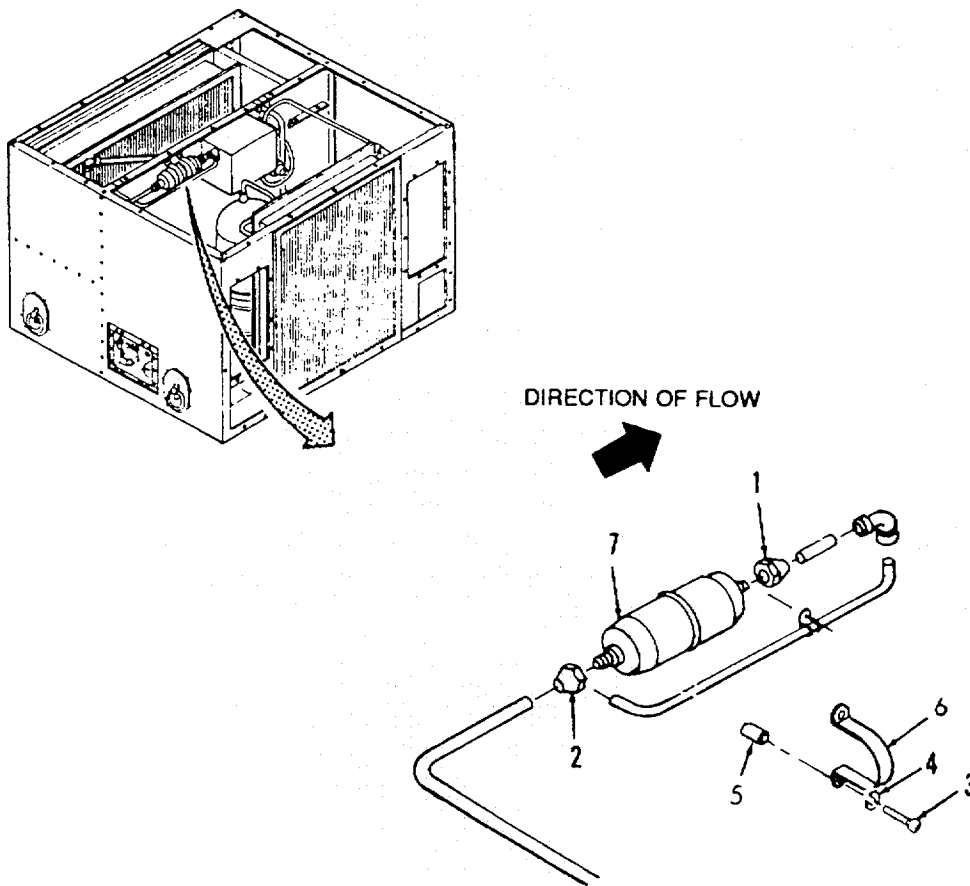

Figure 4-12. Dehydrator.
- a. **Removal.** (Refer to Figure 4-12).
- (1) Disconnect two flare nuts (1) and (2).
- (2) Remove two screws (3), two lock washers (4), two spacers (5), and two clamps (6).
- (3) Remove dehydrator (7).